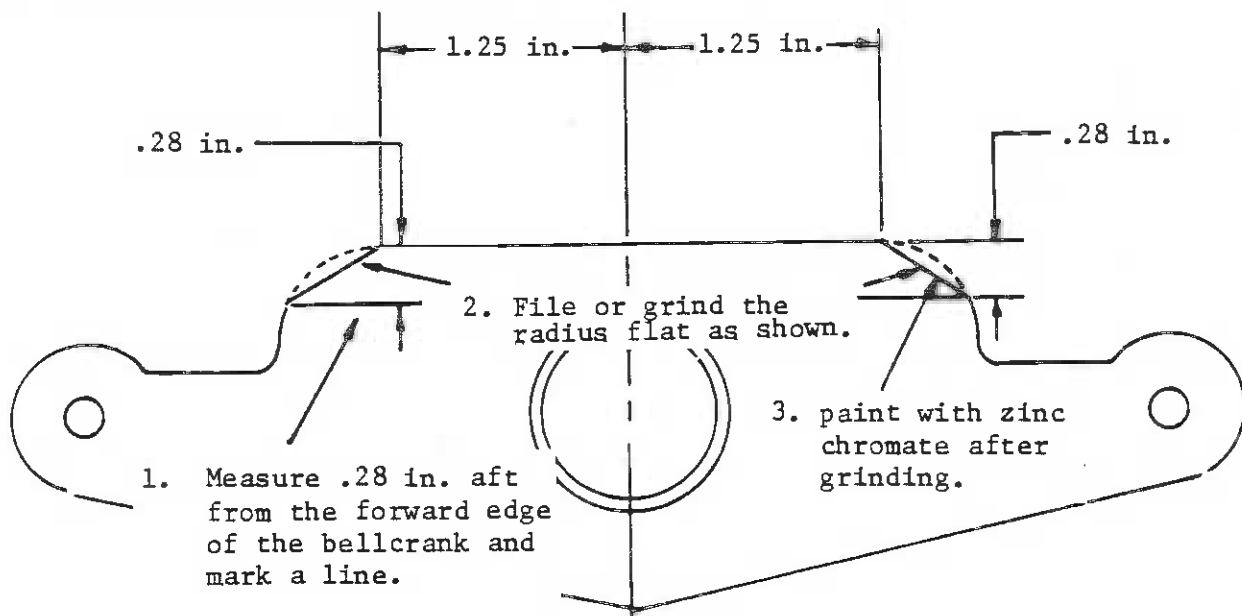

Figure 1. Rudder Bellcrank Modification Procedure.
3. Rework the rudder bellcrank as shown on figure 1.